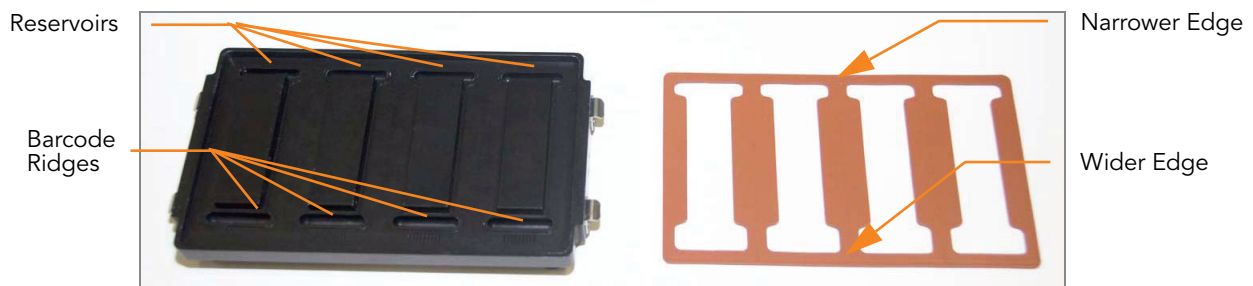

Figure 35 Hyb Chamber and Gasket
- a. Match the wider edge of the Hyb Chamber gasket to the barcode-ridge side of the Hyb Chamber (Figure 35).